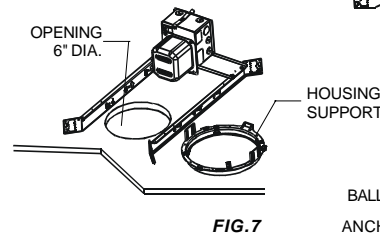

FIG. 7
5. **For ballast assembled to junction box with an opening of ceiling 6" in diameter. (Fig. 7)**
- b) Push the *housing support* inside the ceiling all while keeping it accessible. (Fig. 7)